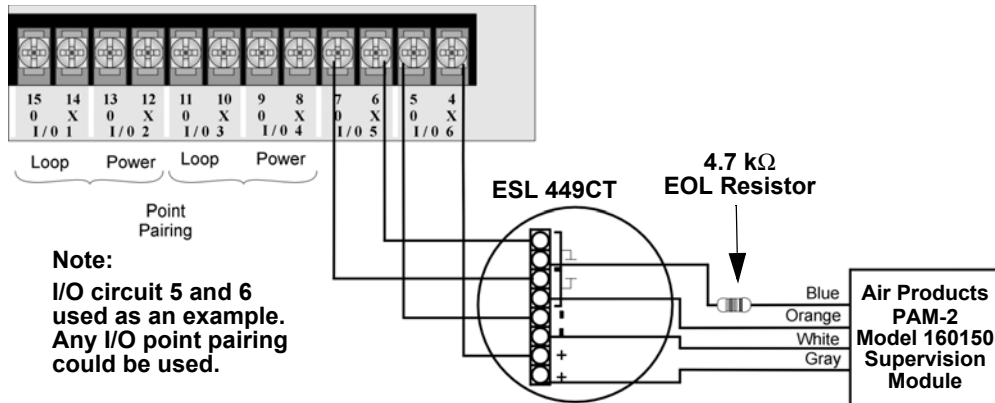

Figure 3.15 Class B 4-Wire Smoke Detector Connections
Figure 3.15 illustrates how to install a 4-wire Class B smoke detector.
2. Each Class B loop input is paired with a unique power source as shown in Figure 3.15.
**NOTE:** In programming any point that uses multiple I/O circuits are always referred to as the lowest I/O circuit number used. For example, Figure 3.15 uses both I/O circuit 5 and 6, so in programming it would be referred to as point 5.